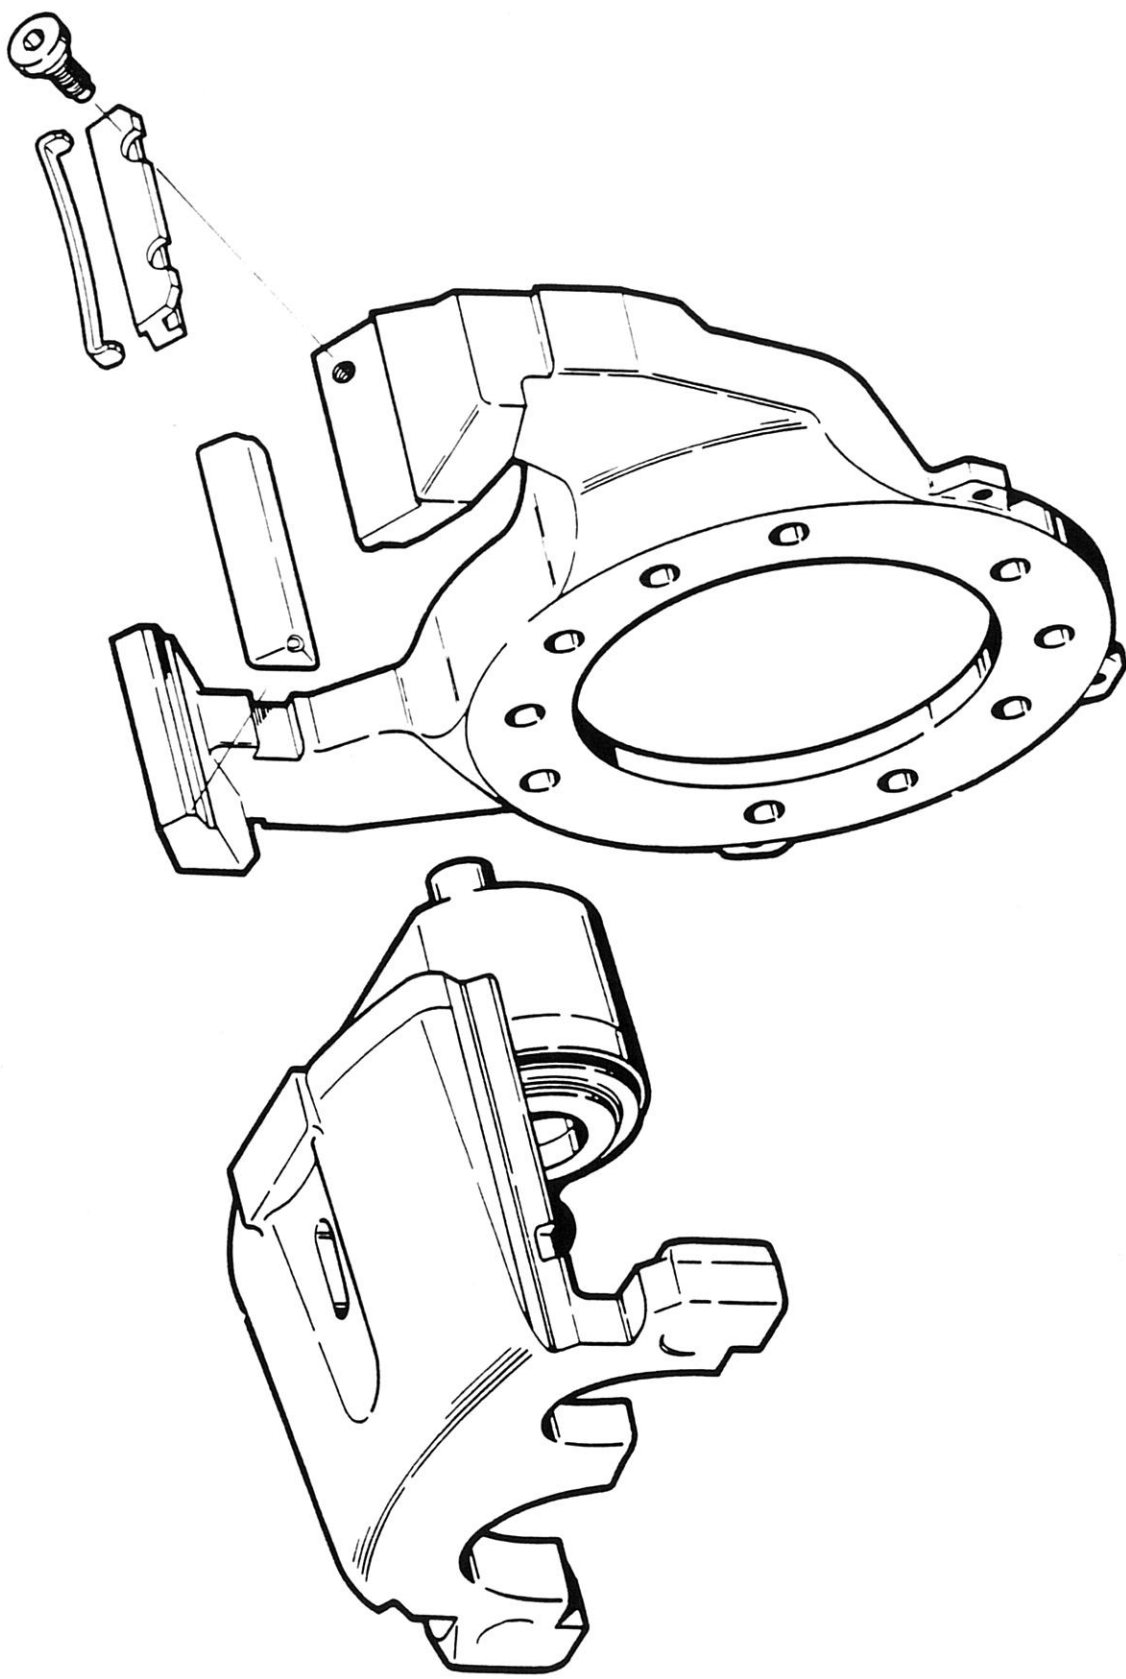

FIG. 3
1. Remove the caliper assembly from the anchor plate and install the selected shim on the anchor plate V-way opposite to the key and spring V-way (see Figure 3).